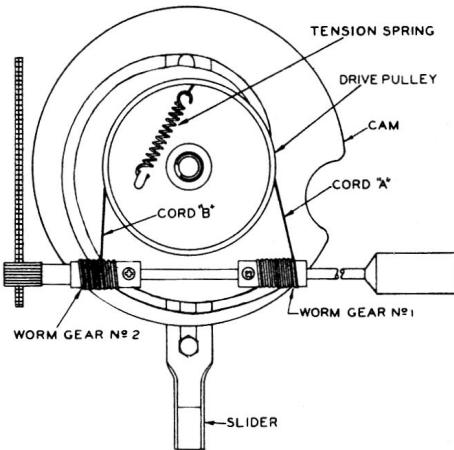

Figure 2
2. Turn the booster pulley and cam assembly until the forked slider has been drawn all the way in and the hole in the rim of the drive pulley is at the top, lining up with the pulley stud and the slider, as indicated in Fig. 2.
5. Tie the tension spring in the loop thus formed, but do not hook it under the ear stamped out of the pulley. You will now have two equal lengths of string extending from the hole in the pulley which we shall call Cord "A" and Cord "B", as indicated in Fig. 2.
- NOTE: You can see by studying Fig. 2 how Cord "A" passes over worm drive #1, whereas, Cord "B" passes under worm drive #2.